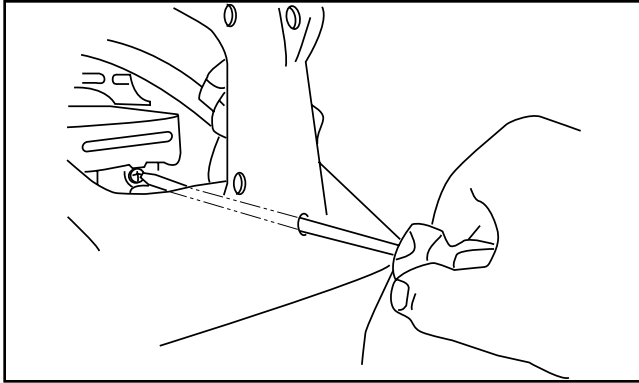

Fig. 32
3. **Initial High Speed Mixture and Idle Speed Mixture Needle Settings:** Insert the screwdriver through the hole at the back of the top handle (Fig. 32). Turn both the high speed mixture and idle speed mixture needles **out (counterclockwise) until the limiter caps stop**.